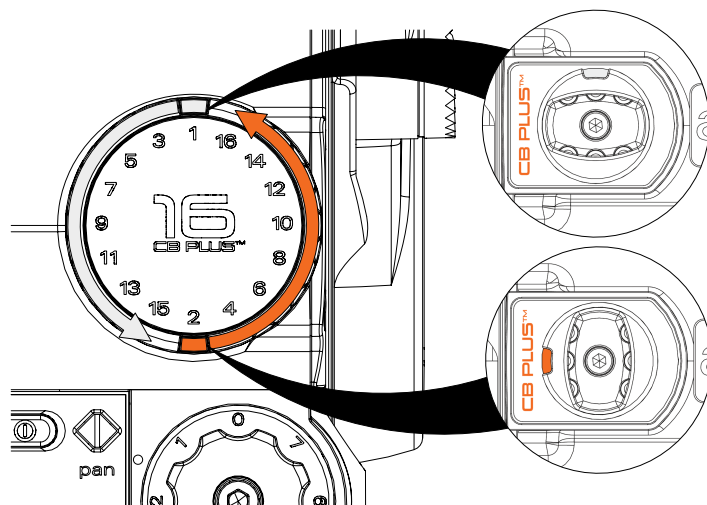

Fig. 10
- 5.3 Finer adjustments can be made by toggling the CB PLUS SELECTOR KNOB (fig. 10).